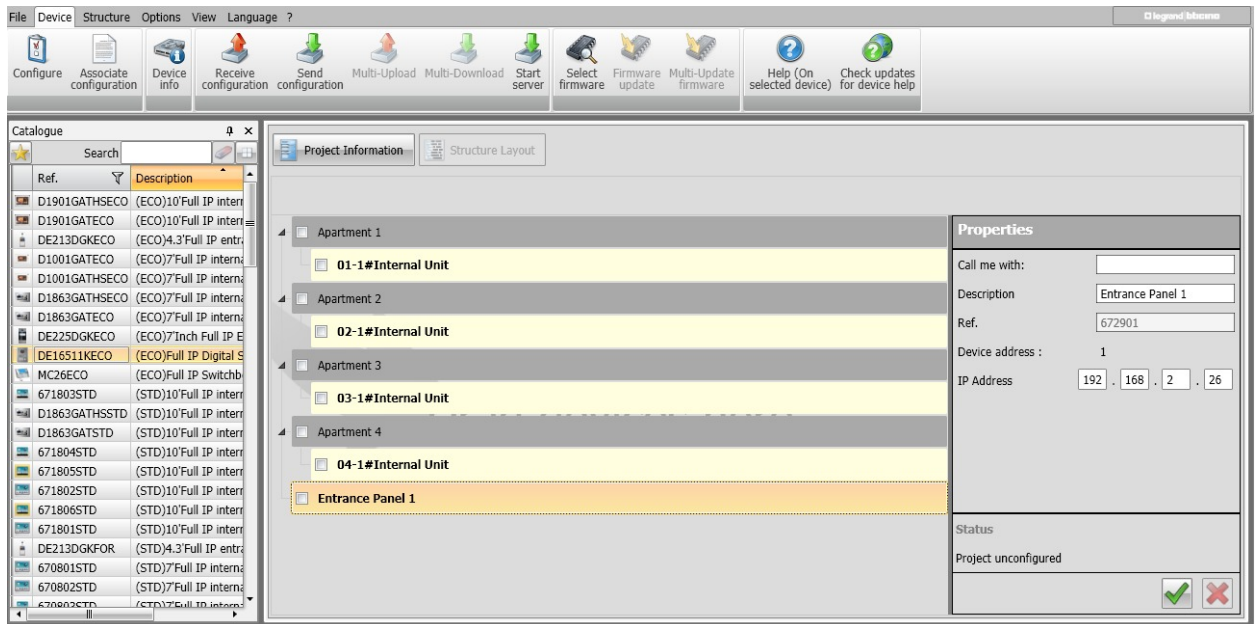

Figure 2.4
- Choose the internal unit section then Properties will open under the Apartment 1 tab. (Figure 2.4)